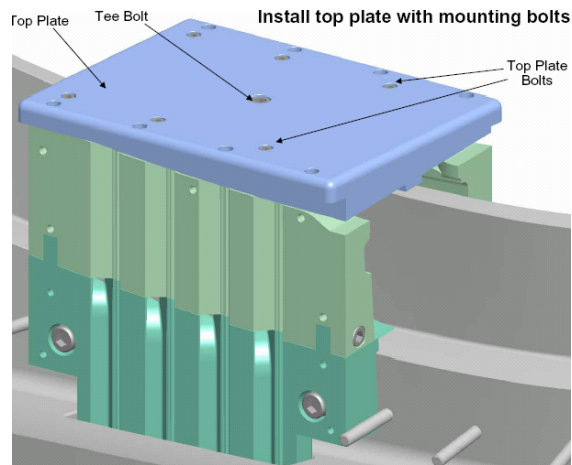

Figure 13- Install Top Plate
- Insert a bushing into the #1 hole in the top of the tee and fit the top plate onto the bushing (there is a recessed hole in the bottom of the top plate that seats the bushing) and insert the 3/8" bolt into the middle hole of the top plate and lightly tighten. [Figure 13- Install Top Plate]